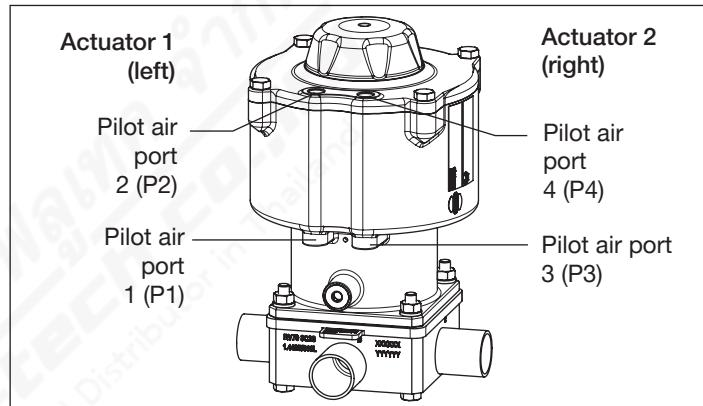

Fig. 17: Pneumatic connection
1) Actuator assignment see "Fig. 17".